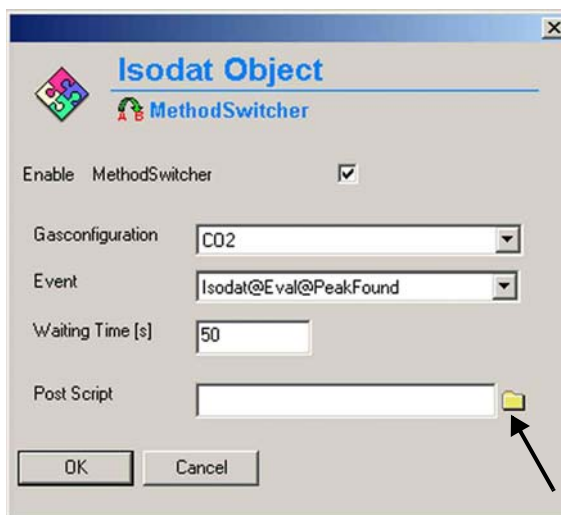

Figure 6-11. Parameters for method switching - without post script
The event time is active since for example 200 s. Figure 6-11 appears.
5. Click on  to browse to the ConFlo folder for a post script which will be executed during the jump. See arrow in Figure 6-11.